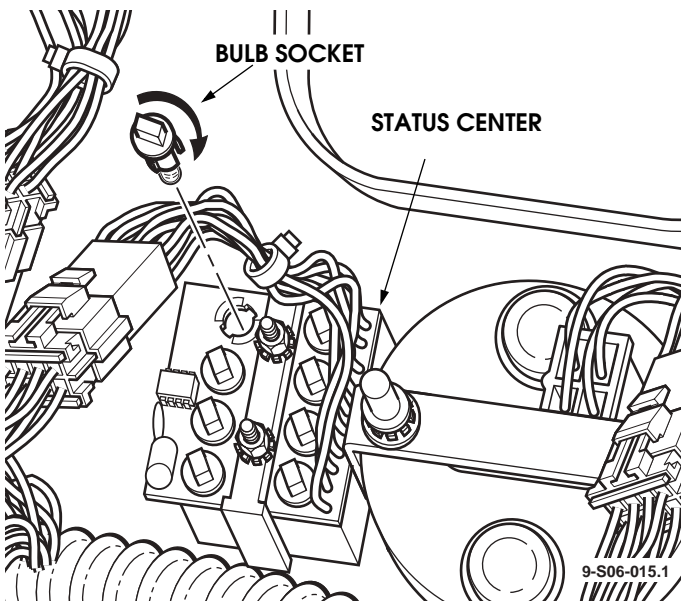

Figure 2-86: Instrument Panel Indicator Light Replacement
3. Pull lamp from socket (Figure 2-86).
1. Push lamp into socket (Figure 2-86).